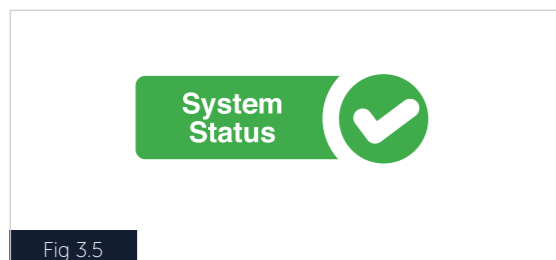

Fig 3.5
- The status symbol will be green and show a tick (Fig 3.5) if treatment can be carried out.